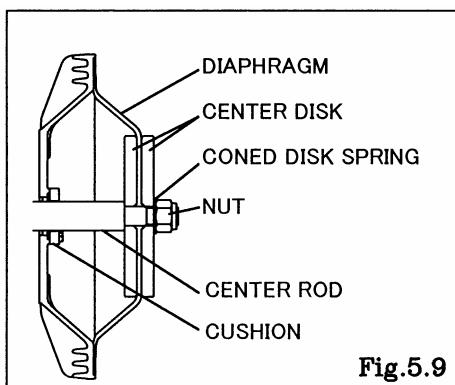

Fig.5.9
- Insert the cushion (except with the NDP-80). (cf. Fig.5.9)
- Draw the center disk to one side (exclude B□H, B□S, B□H/T type cf. Fig.5.9).